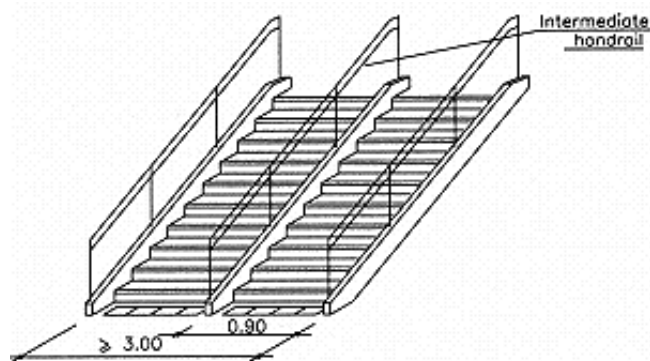

Fig. 5
- For stairs more than 3.00 m wide, one or more intermediate handrails could be provided (fig. 5).
- The distance between the handrails when both sides are used for gripping should be between 0.90 m and 1.40 m (fig. 5).